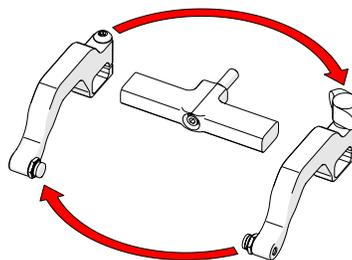

Fig. 117 - Reverse position around yoke
4. Position the removed arms to the opposite sides of the yoke (Fig. 117).